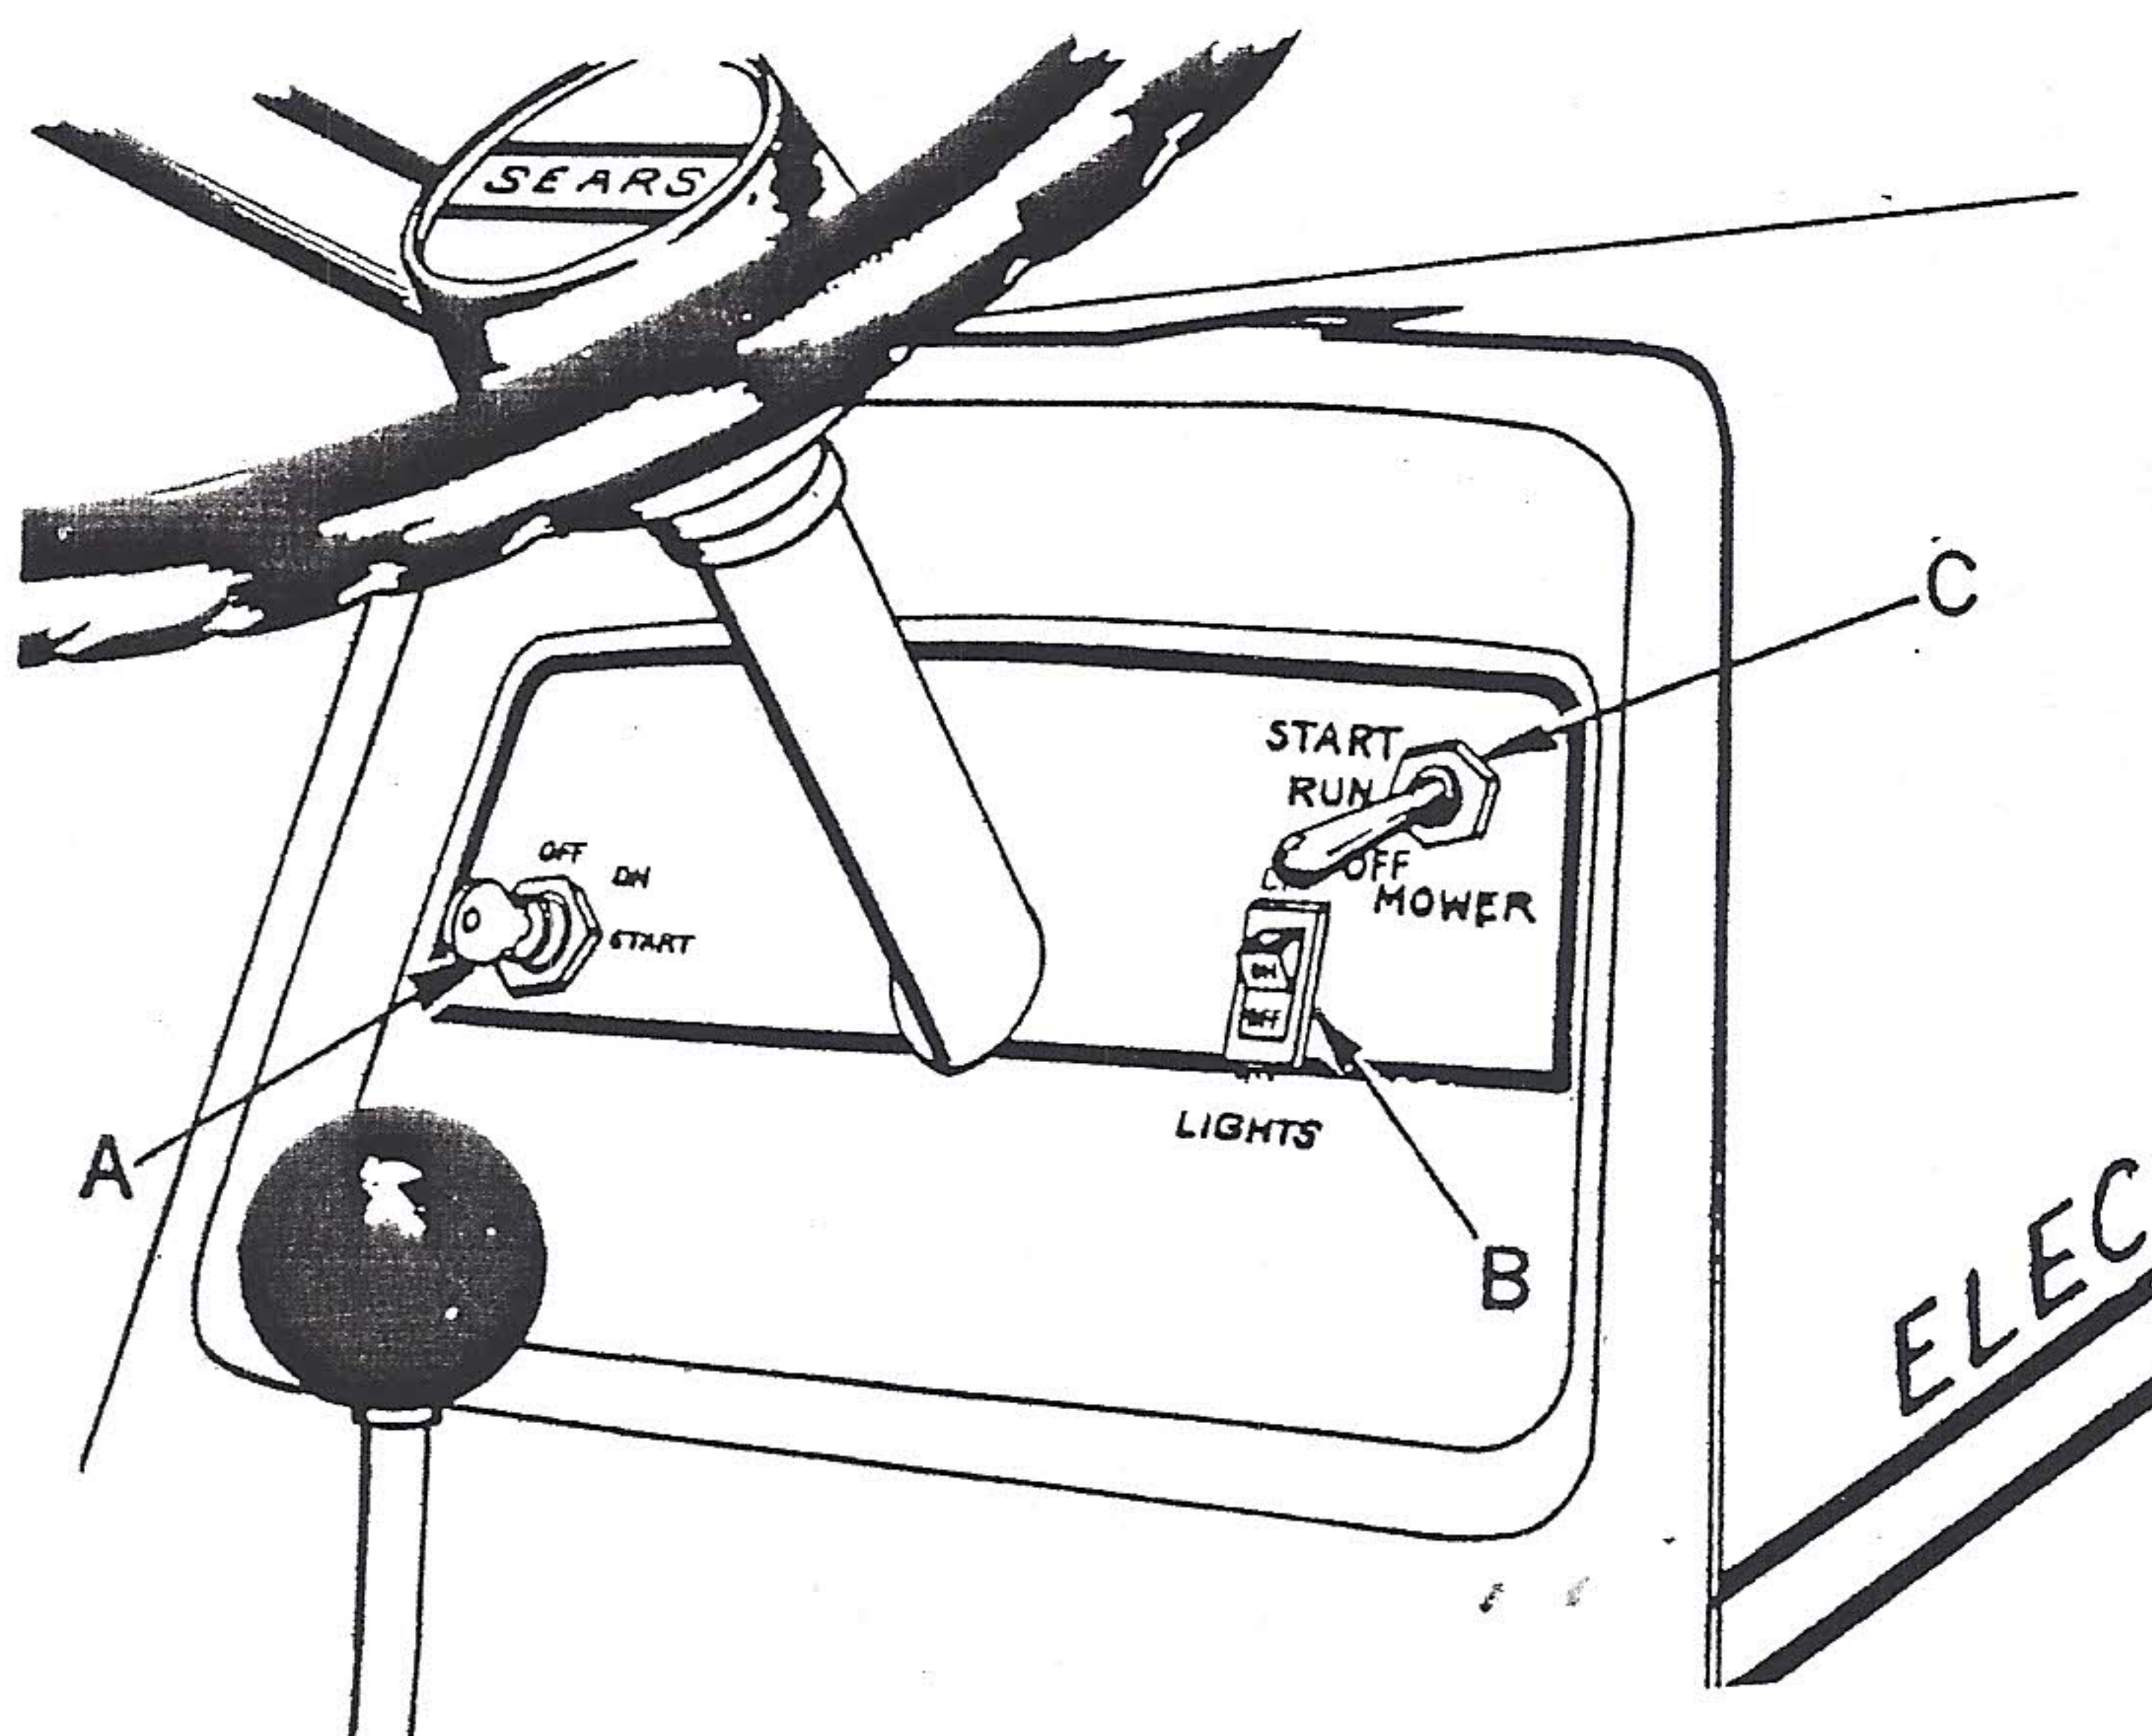

FIG. 17
- The two mower blade motors are activated by a toggle switch (C, Fig. 17) located on the R. H. side of the dashboard. It has three positions: "Start", "Run" and "Off". Mower will not start unless tractor drive (traction) motor is running. Mower toggle switch must be in "Off" position before stopping or starting the tractor.
- Mower electric motors switch (C, Fig. 17), should be in the "Off" position. NOTE: Mower will not start unless tractor drive (traction) motor is running.
- Turn the key (A, Fig. 17), for the tractor drive (traction) motor, to "Start" position. Release key and it will return to "On" position.
- Flip mower electric motors switch (C, Fig. 17) to "Start" position. Release switch and it will return to "Run" position.
- To stop mower motors, flip switch (C, Fig. 17) to "Off" position. To stop tractor motor, turn key (A, Fig. 17) to "Off" position. Key should be removed to prevent unauthorized operation.
- To stop tractor and mower, flip mower motors switch (C, Fig. 17) to "Off" position. Push clutch and brake foot pedal all the way down. Move gear shift lever to neutral, set parking brake and release foot pedal. Always check to make sure brake lock will hold tractor-mower secure. Shut-off and remove key from switch. This will prevent unauthorized operation. Keep key in a safe place out of reach of children. Never leave mower motors and/or tractor drive (traction) motor running after dismounting from tractor seat.